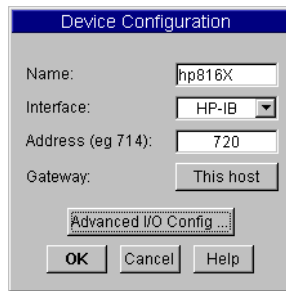

Figure 13 Device Configuration
- 2 Double-click on the Add button to bring up the Device Configuration screen, see Figure 13 .